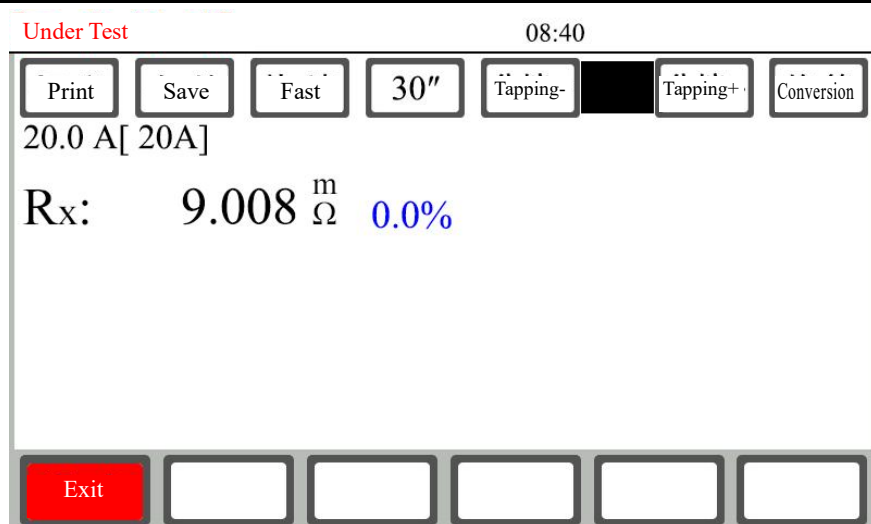

Figure 9
After starting the test, the display screen indicates the value of the test charge current while giving the prompt "Recharging..."; in addition, the system clock starts timing and shows the test time from charging. After the test current reaches the preset current and is stable, the prompt "Under Test" is given and then the test resistance value (RX) is displayed. Observe the stability of the test current value and resistance value. The instrument conducts continuous tests (as shown in Figure 9). The instrument will indicate the percentage of the error between the current resistance data and the resistance data before stabilization judgment time interval from the beginning of showing resistance data up to stabilization judgment time interval so as to determine the stability of the channel resistance measurement data. The time interval can be set and switched among 5", 15" and 30" by touching the interval selection button. It can be set according to the historical test experience on test products. The stabilization judgment time interval setting can also be revised in the setting menu. A test report can be generated and printed out by touching the "Print" button. Touch the "Save" button to save the current test data report into the instrument memory. The "Fast" measuring mode is generally selected in instrument test; when the test resistance value fluctuates to a large extent, you can try to switch to the "Slow" mode. At this time, you can switch between "Fast" and "Slow" only by touching the speed selection button. Tapping information input will be activated by touching the "Tapping-" or "Tapping+" button; after re-touching it, change the tapping position value. When the tapping position value is 0, turn off the tapping input function. By touching the "Conversion" button, temperature conversion will be performed according to the set test product temperature, converted temperature and material, and the converted resistance value and the corresponding test product temperature and converted temperature will be displayed. After re-touching the "Conversion" button, cancel the conversion mode and return to the resistance data state without conversion. The test product temperature, converted temperature and material can be set by selecting the setting main interface to enter the setting menu.